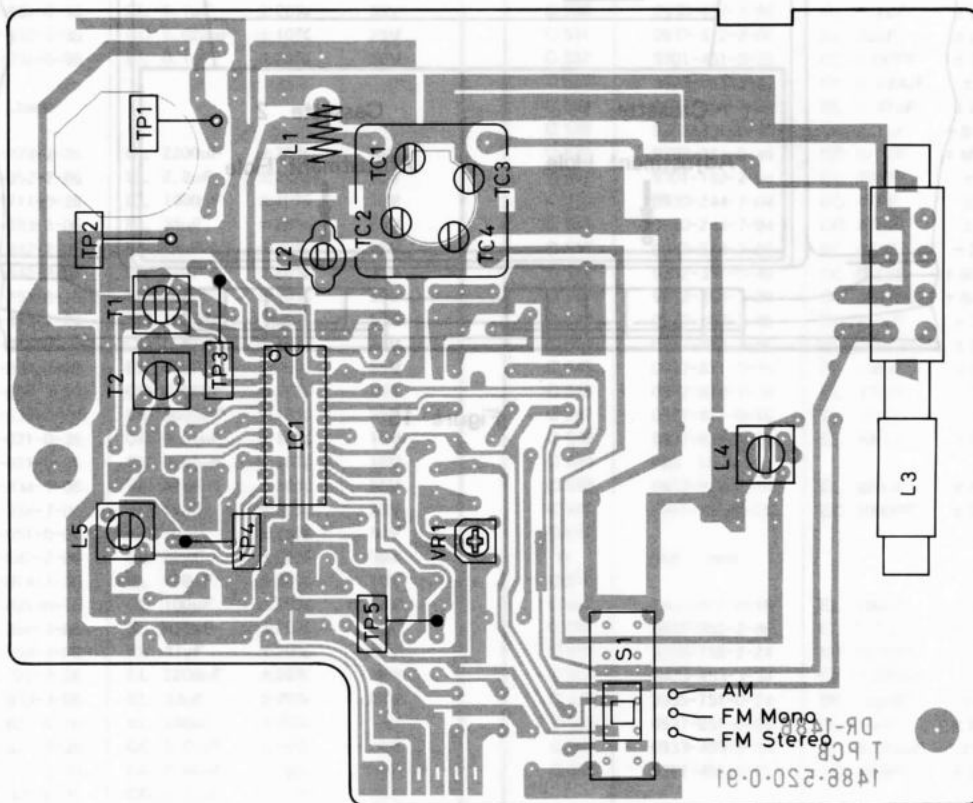

Figure 17
**AM IF Alignment (Figures 17 and 18)**
**MW RF Alignment (Figures 17 and 18)**